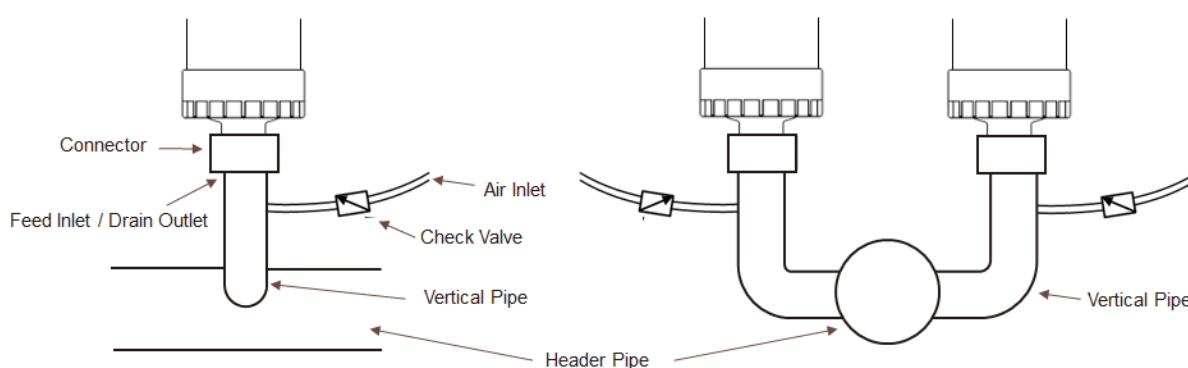

Figure 7-3: Examples of Air Pipe Installation
6. To completely inject air into the module at Air Scrubbing process during filtration operation, install the air inlet on the vertical pipe located directly below the module, and at a position higher than the header pipe to minimize the risk of air entering the header. Please refer to Figure 7-3. Also, a check valve is necessary to the air piping to avoid water reverse flow.